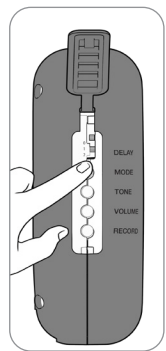

Fig. 5
3. Press MODE button on left side of alarm to scroll through the mode selections (Fig. 5). The last mode heard is the mode utilized when the alarm is activated.